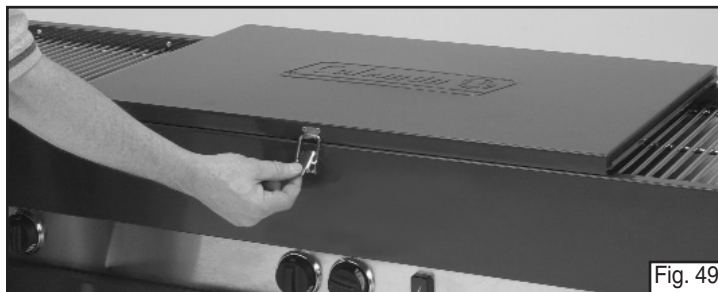

Fig. 49
- Center Lid goes on first. (Fig. 49)